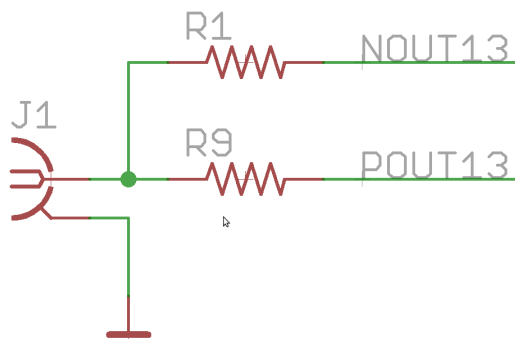

Figure 5: Schematic of the method used to combine the differential signals to a single output on the PixOut board.
- 16 individual SMA sockets for monitoring the pixel signal on an oscilloscope, for example. The differential signals from the PreAmp board are combined into a single output on the PixOut board, as shown in Figure 5.